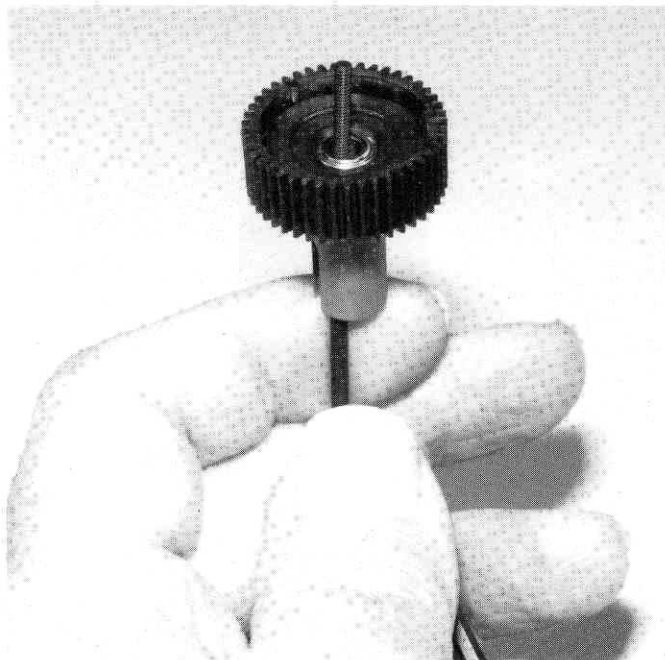

Fig. 43
□ **Fig. 43** Now place the other drive ring onto the diff balls and center it as close as possible to the gear.